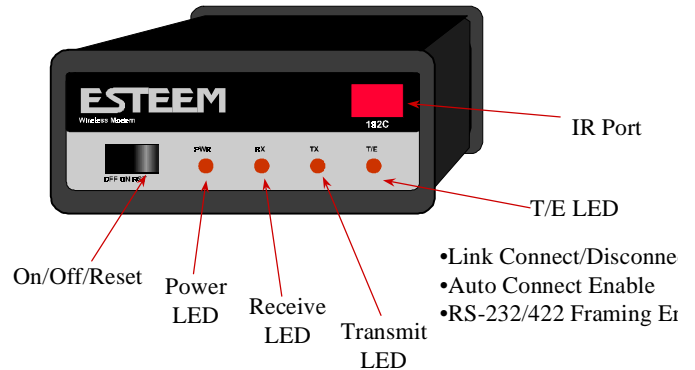

Figure 4: ESTeem Front Panel
1. The Description of ESTeem Front Panel section will show the location and description of the four lights on the front of all ESTeem modems (Figure 4). For example, place the cursor dot over the PWR location and press ENTER. A small dialog on the meaning of the PWR light indicator will be displayed. Familiarize yourself with the meaning of all the display lights on the ESTeem and press ESC to continue.